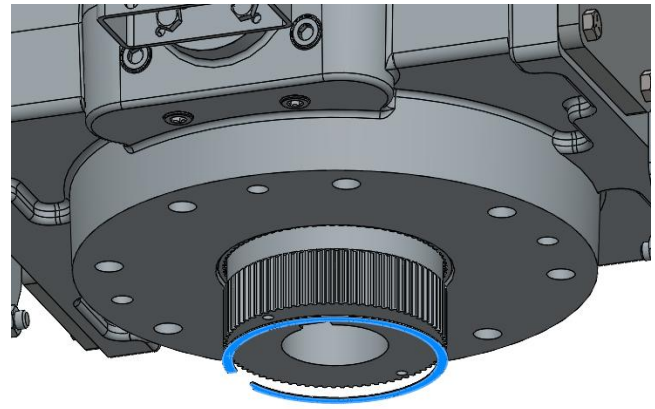

Figure 11 - Driver Removal
- Remove the retaining ring Highlighted in **Figure 11 - Retaining Ring** using a flat screwdriver.